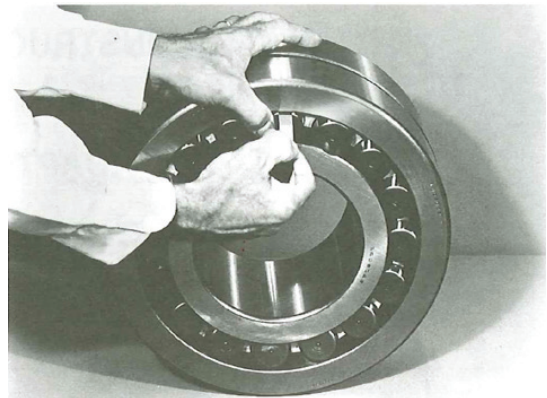

Figure 1 - Internal Clearance
2. Measure the internal clearance of the bearing before mounting. Place the bearing in an upright position as shown in Figure 1. Seat the inner ring and roller elements by pressing down firmly on the inner ring bore while rotating the inner ring a few times. Position the roller assemblies so that a roller is at the top most position on either side. For bore sizes above 135 mm, press these top rollers inward ensuring contact with the center guide flange. Using a feeler gauge measure the clearance for each side by inserting as far as possible and sliding over top of roller (Figure 1). Write down the measured clearance for use in Step 3e.
1. Install fixed bearing first. Measure the internal clearance of the bearing before mounting. Place the bearing in an upright position as shown in Figure 1. Seat the inner ring and roller elements by pressing down firmly on the inner ring bore while rotating the inner ring a few times. Position the roller assemblies so that a roller is at the top most position on either side. Using a feeler gauge measure the clearance for each side by inserting as far as possible and sliding over top of roller (Figure 1). Write down the measured clearance and compare with specifications Table 3.